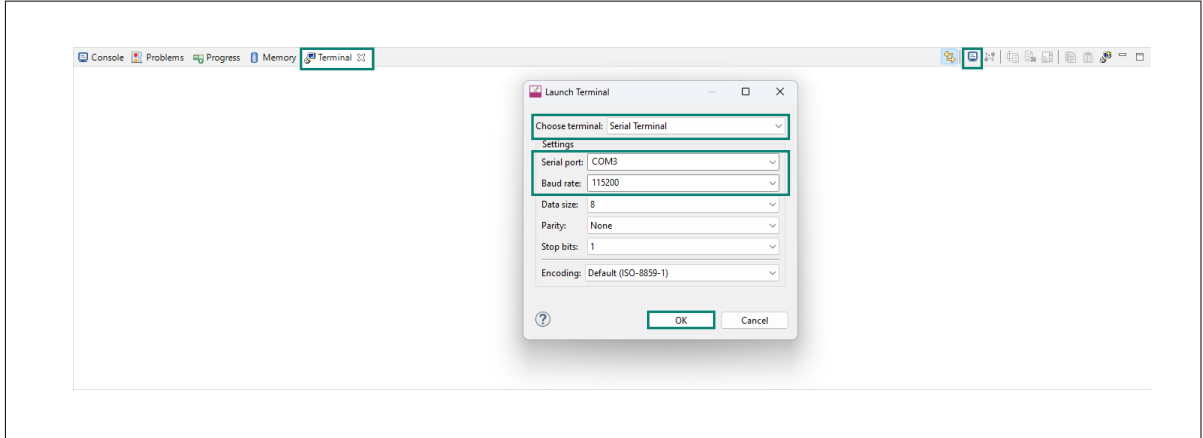

Figure 12 Opening the serial terminal window and connecting to USB-UART for LED blink code
10. To view "Hello World" in the terminal window, make sure to open the serial terminal and connect it to the KitProg3 USB-UART COM port with baud rate of 115200. You can access the serial terminal available in the ModusToolbox™ near the console window (see Figure 12)